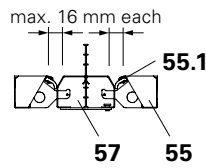

Fig. B10.13
- 2x Outside Pieces AT (55) for concrete cover
- 1x Centre Piece MTF (57) (Fig. B10.13)